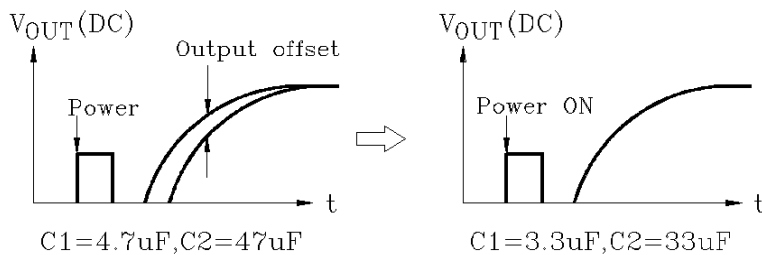

Fig.4
Therefore, the offset voltage produced at the input stage is suppressed to prevent the pop noise at V_{CC}→ON. The capacity values of the input and NF condenser (C1 and C2) shall be set according to the gain to be used(Fig 4).
Through setting ① pin (mute terminal) at about 1V or less, muting becomes possible. The interval circuit of IC is shown in fig.4.